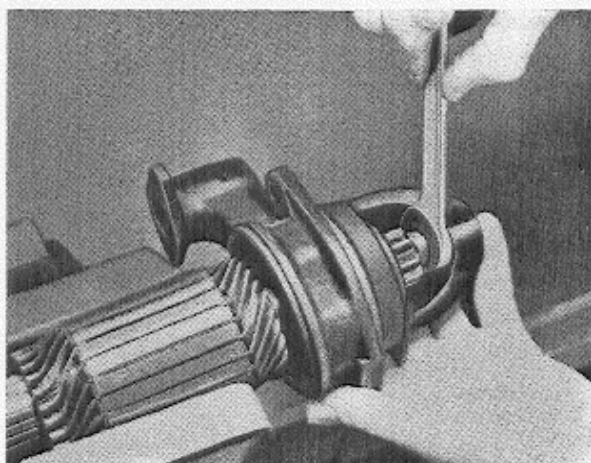

Fig. 47.
6. Remove the cotter pin and loosen the nut on the rotor shaft. Remove the lock ring, see Figs. 47 and 48. Polish the edge of the shaft at the lock ring with a file so that any burr is removed.